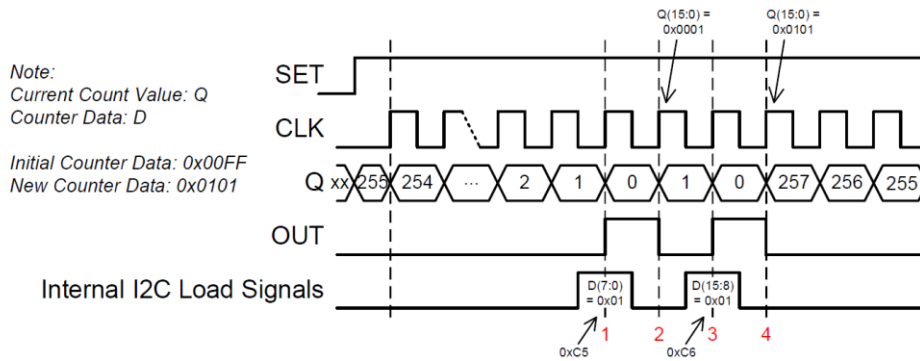

Figure 10: I2C Write of 16-Bit Counter Data Example
The timing diagram in Figure 10 sets up a case where an improper output will be seen on the counter. In this example, the initial Counter Data value (D) is set up as 0x00FF. As you can see, the Current Count Value (Q) decrements from 255 down to 0 with rising edges on CLK. At time "1" denoted by a red number 1, an I2C command (not shown) has just been sent to the GreenPAK device to reconfigure the Counter Data value to 0x0101.